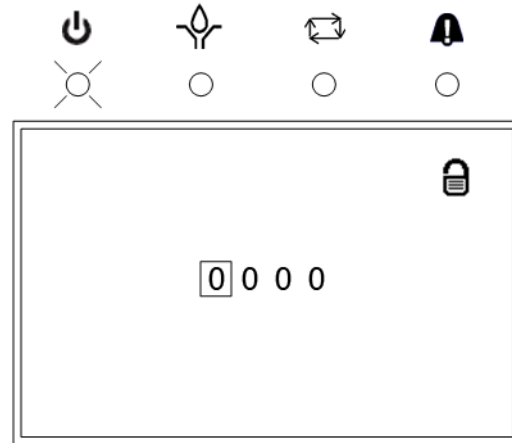

FIG. 21
- To access Setup Mode, hold down the ENTER key for 3 seconds. The PIN ModeScreen shown in FIG. 21 displays.
- The Pin Mode screen shown in FIG. 21 only displays when the PIN mode is enabled. For setting up systems when the PIN mode is not enabled, go to System Setup instructions on page 21.
- Before the PIN Mode screen shown in FIG. 21 can display, the PIN Mode must be enabled in a previous setup sequence. See PIN Setup, page 32.
- The PIN Mode screen in FIG. 21 displays.
- Use the LEFT / RIGHT arrow to position the cursor over the first blank PIN Code prompt field (FIG. 21).